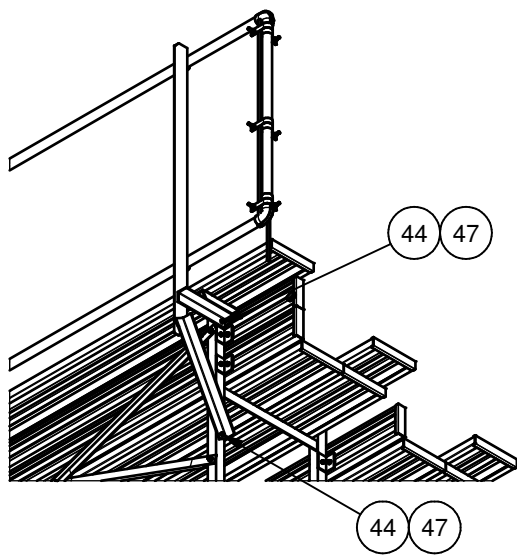

Figure 9
16. Install the side rail weldments onto the ends of the bleacher. Locate one vertical on the top row, 8th row, 6th row, and on the 4th row. Position the verticals as shown in figure 9. Using the holes in the angles, drill the four 3/8" holes through the seat plank (2 holes) and the foot planks (2 holes). Attach the verticals using the 3/8" x 2.5" hex bolts and 3/8" whizlock nuts. Make sure the clamp plate is placed on the underside of the plank before installing the nuts. Tighten all bolts and nuts securely.